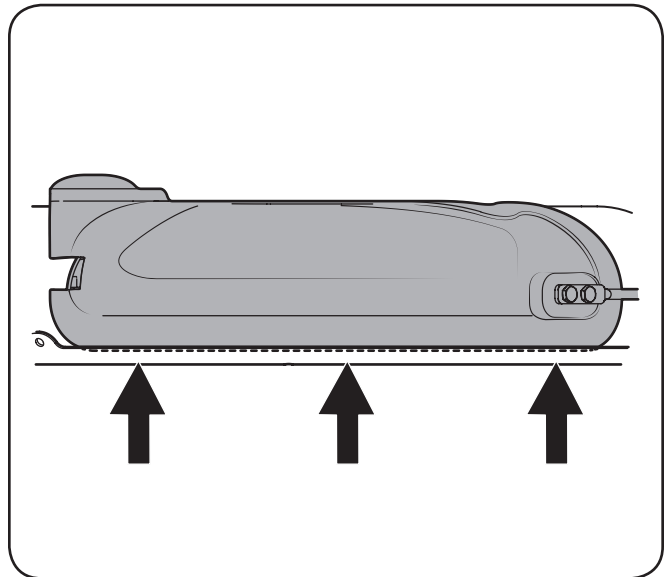

Figure 1-5
**Important:** Be certain that the bottom of the mulch plug is installed down inside of the lip of the deck opening, as shown in Figure 1-5.